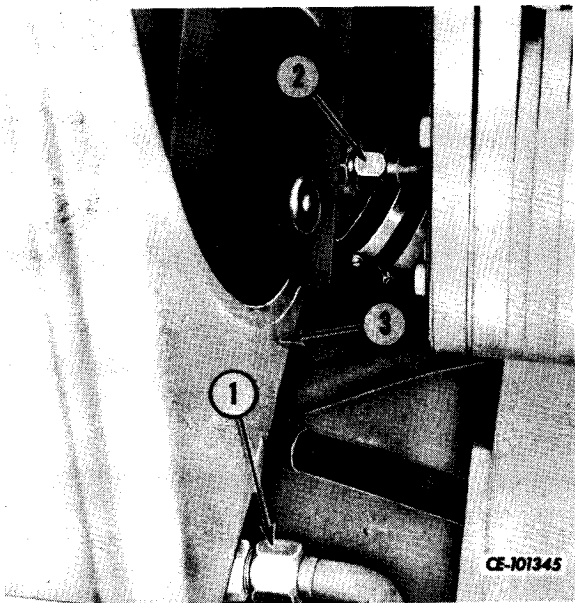

Figure 2-43
Disconnect hydraulic lines (1, 2, Fig. 2-43) from the bottom of the engine radiator (3).